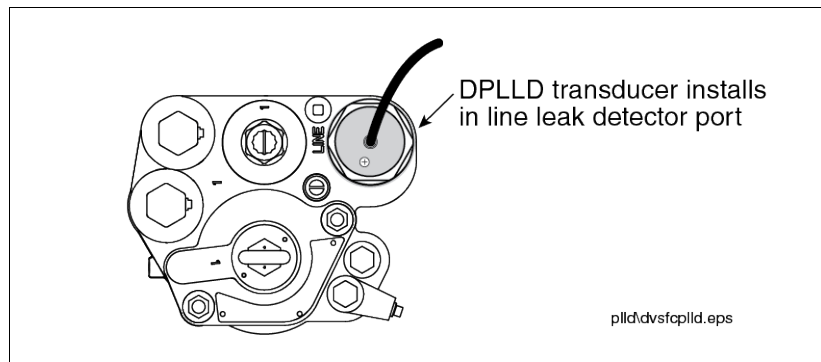

Figure 12. Locating Discharge Port Plug For Line Leak Transducer
2. If the pump does not have a Stage II vapor recovery device installed in the pressurized piping, remove the 2" NPT plug from line leak detector port. Install the DPLLD transducer into the 2" NPT port (see Figure 12).